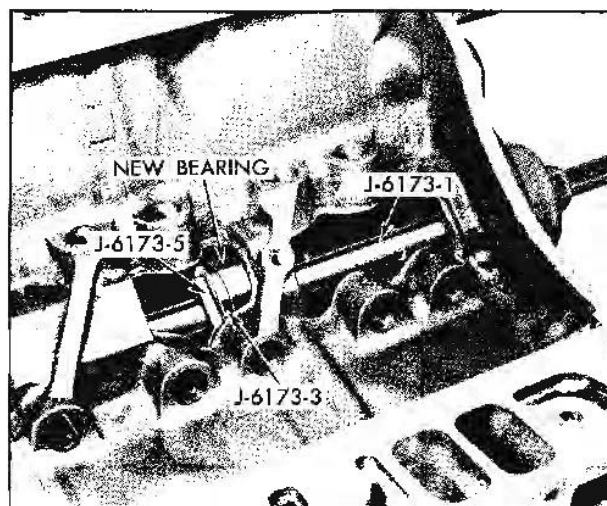

Fig. 6-123 Preparing to Install Camshaft Bearing
5. Position replacer adapter J-6173-3, with bearing in position against shoulder, against rear of hole in which bearing is to be installed (Fig. 6-123). Index mark on shoulder of replacer must point down toward crankshaft side) to properly position bearing.
7. Slip key J-6173-5 into notches in shaft behind replacer adapter J-6173-3 and tighten nut to start bearing into hole (Fig. 6-123). Continue to tighten nut until bearing has been pulled completely into its hole. When properly positioned, it will be approximately flush with both sides of the transverse member.